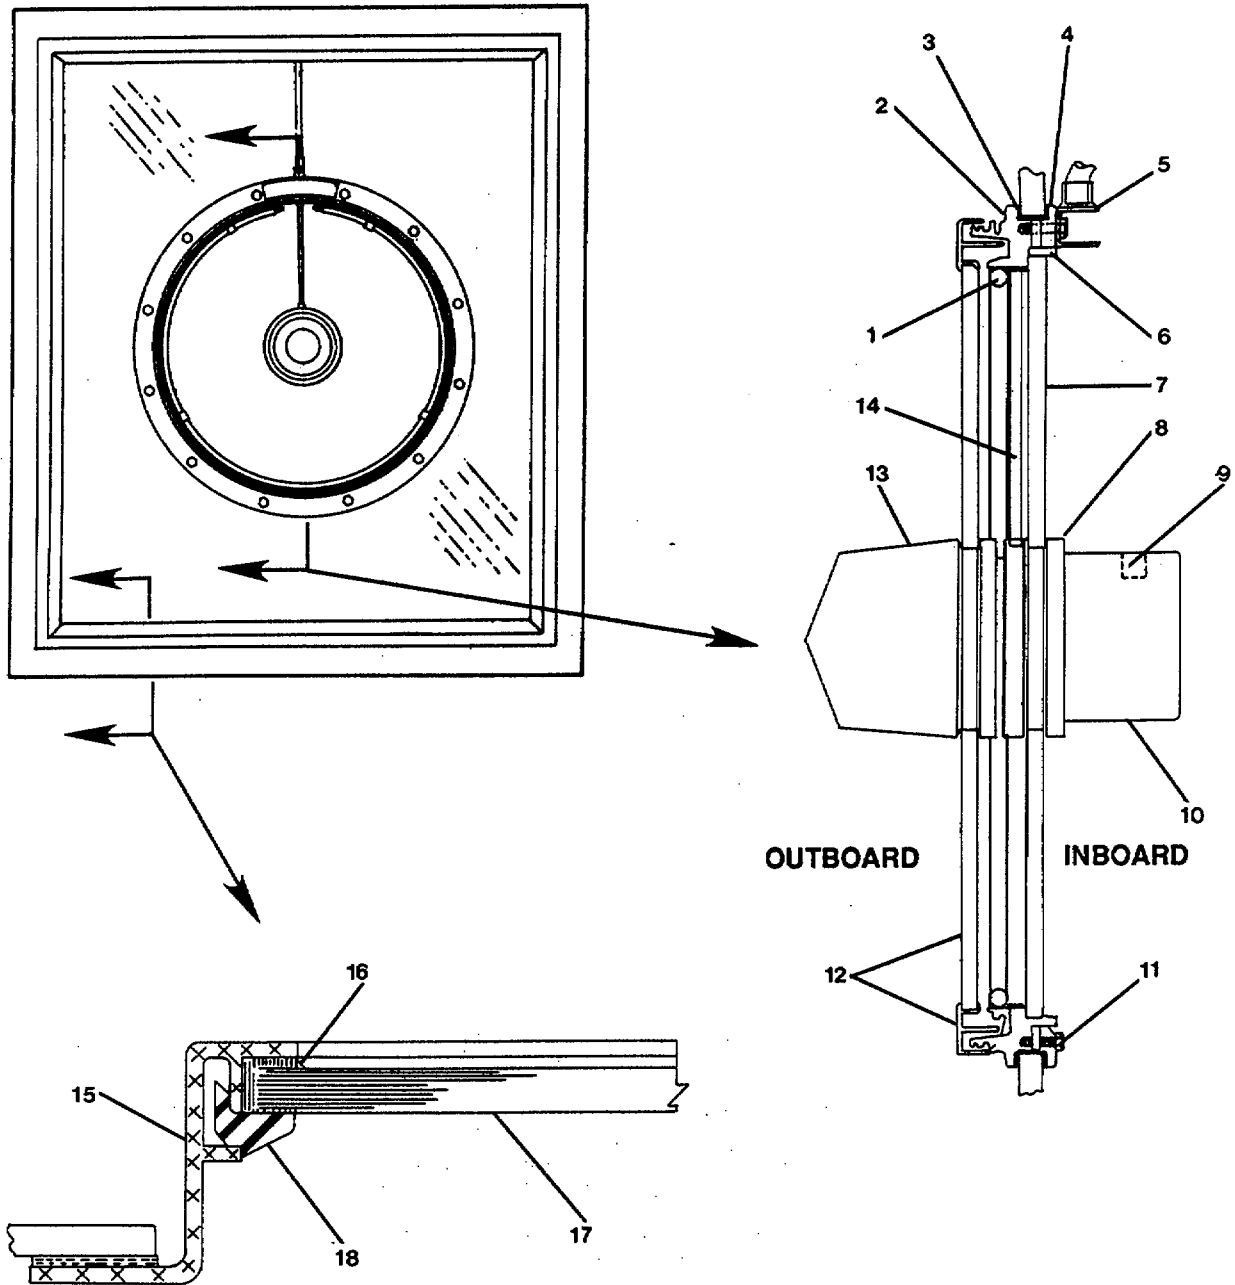

FIGURE 3-180. *Repair Fixed Window, With Rotary Window.*
- (1) Remove rotating cap (13, Figure 3-180).
- (2) Carefully remove rotating glass (12).
- (3) Remove frame retaining bezel ring (6).
- (4) Carefully remove fixed glass (7) with motor (10) attached.
- (5) Remove bezel ring (8) and motor (10) from fixed glass (7).
- (6) Remove cable feed tube (14) from motor (10).
- (7) Remove screws (11), junction box (5), and retaining ring (4).
- (8) Remove frame ring (2) from fixed window assembly.
- (9) Remove gasket (3) from around frame ring (2).
- (10) Remove defroster/heater (1) from frame ring (2).
- (11) Remove back plate of motor (10).